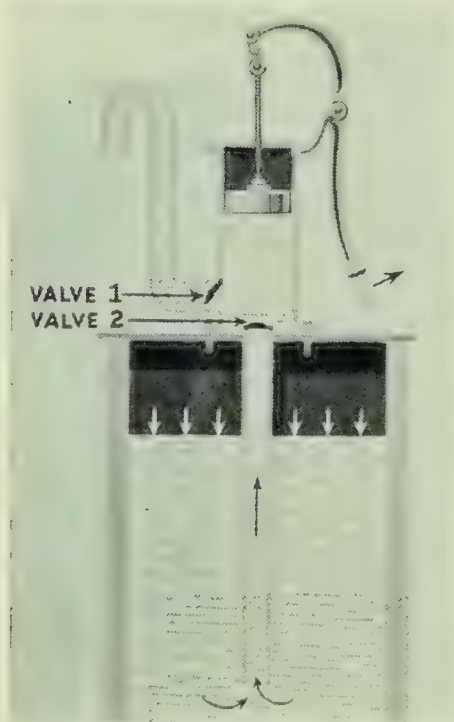

FIG. 240. A force pump
When it is necessary to supply water at a level higher than the pump, *force pumps* are often used instead of lift pumps. The simplest type of force pump is shown in Figure 240. When the piston is pulled upward, Valve 1 closes, and water rises in the pump, forcing Valve 2 open, as in the lift pump. On the downward stroke of the piston, Valve 2 is closed by the pressure above it, and Valve 1 opens, allowing the water to be forced through the spout.
2. Figure 240 shows the piston on the downstroke. Make a drawing to show position of pistons and movement of water on the upstroke.